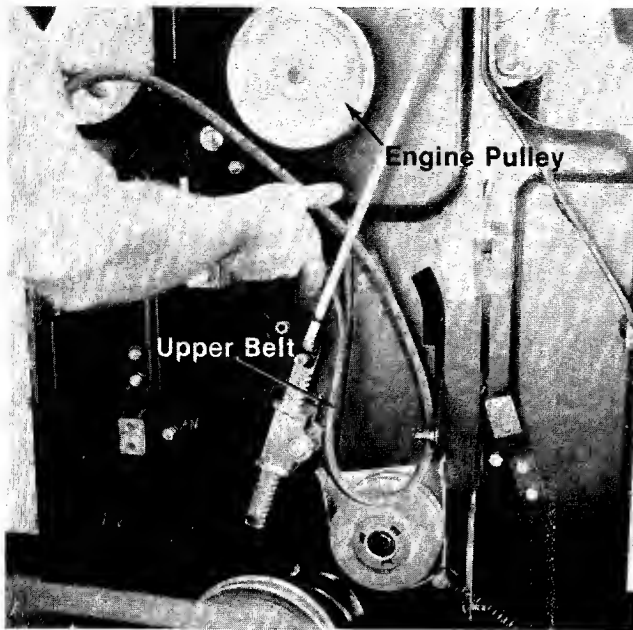

FIGURE 35.
12. Unhook the upper belt from the engine pulley and remove. See figure 35.